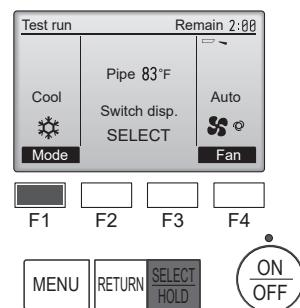

Fig. 7-3
- Press the [F1] button to change the operation mode. (Fig. 7-3)